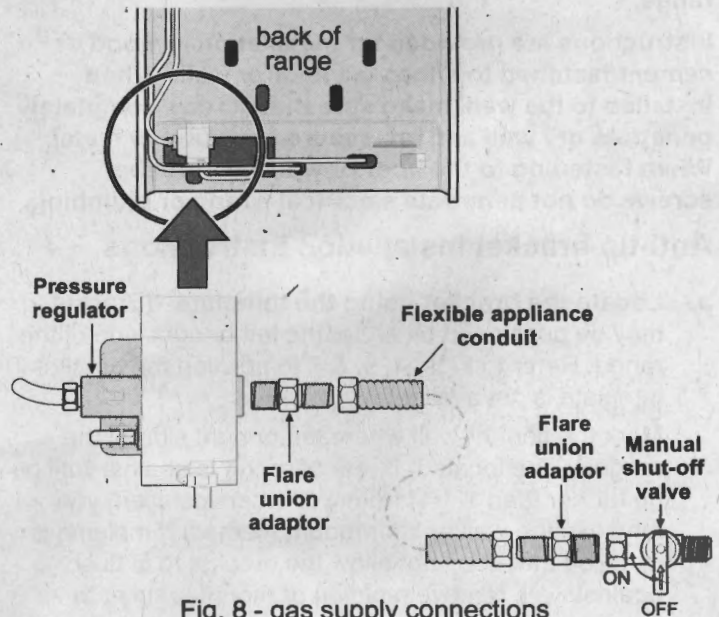

Fig. 8 - gas supply connections
- Install an external manual gas shut-off valve to gas supply line in an accessible location outside of range. Be sure you know where and how to shut off the gas supply to the range (See Fig. 8).
- Install 1/2" flare union adapter to gas pressure regulator using **no more than 15ft./lbs.** of torque (Refer to Fig. 8).